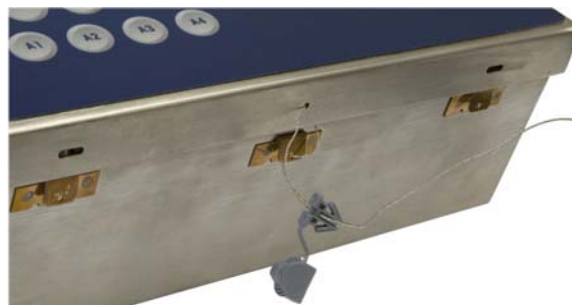

Figure 2-89: External Sealing of the Harsh Enclosure
For external sealing of the harsh enclosure, refer to Figure 2-89 and follow these steps:
5. Thread the end of the wire cable through the plastic seal and snap the seal shut. Note that, to show the relationship between the components, Figure 2-89 shows the cover open, the wire slack, and the seal not yet shut.